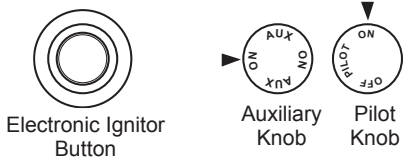

Figure 17 - Pilot Knob In The ON Position
- 5. Press in pilot knob and turn counterclockwise  to the PILOT position. Keep pilot knob pressed in for five (5) seconds (see Figure 17).